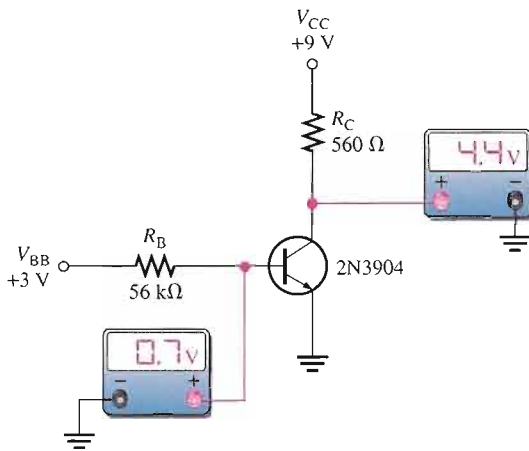

FIGURE 4-30
2. In a transistor bias circuit, such as the one in Figure 4-30, what happens if R_B opens?
3. In a circuit such as the one in Figure 4-30, what are the base and collector voltages if there is an external open between the emitter and ground?